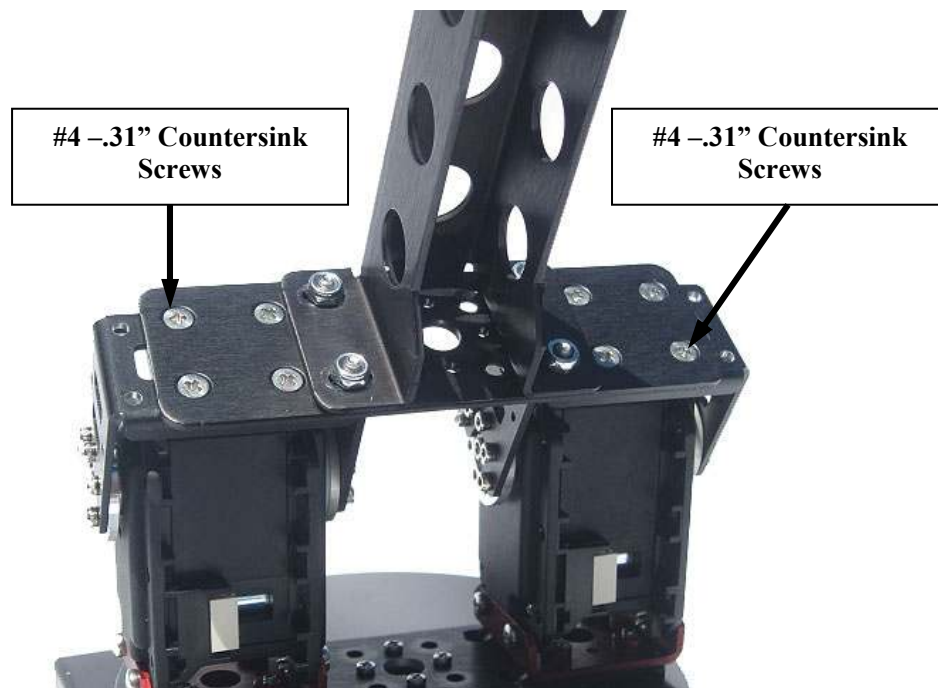

Figure 26
Tilt the (2) brackets at an angle and use needle nose pliers to hold the lock nuts in place while tightening the #4 – .31” countersink screws (Figure 26).